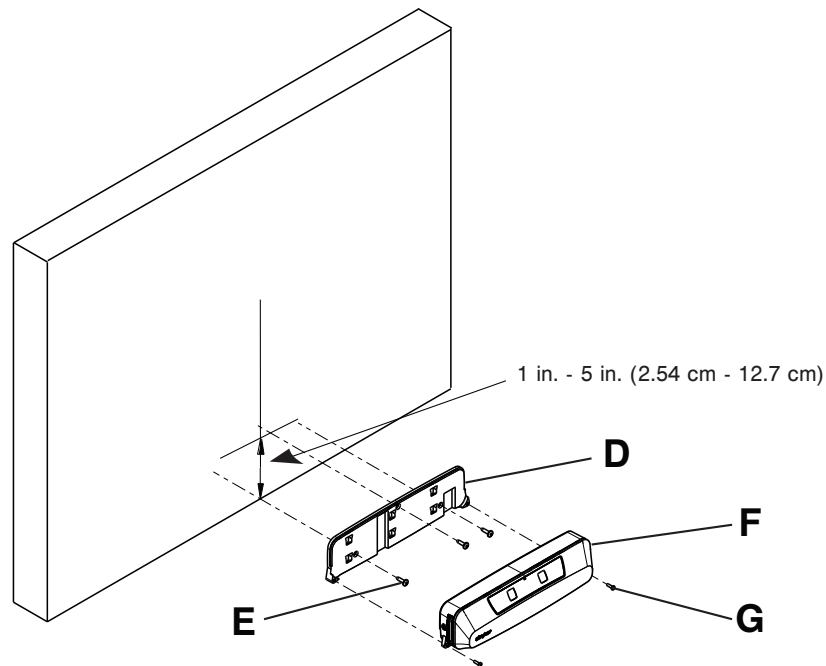

Figure 7 – Mounting specifications
3. Using a #2 Phillips screwdriver, remove the two screws (G) that secure the **Secure Connect** (F) to the mounting plate (D) (Figure 7). Save the two screws.